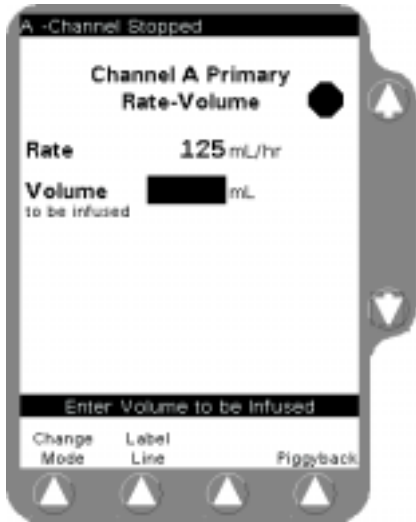

Figure 3-15 Enter Volume to be Infused
3. Press the **Vol** key or use the $\uparrow\downarrow$ keys to highlight the Volume to be Infused field for programming (Figure 3-15).